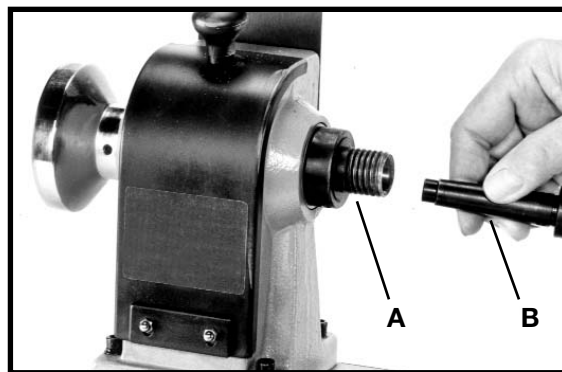

Fig. 10
1. The spur center (A) Fig. 10, supplied with your lathe, is equipped with a No. 2 Morse Tapered shank (B). It will fit snugly into the headstock spindle. **NOTE:** Before inserting, clean both the shank and the headstock spindle to remove any grease or debris.